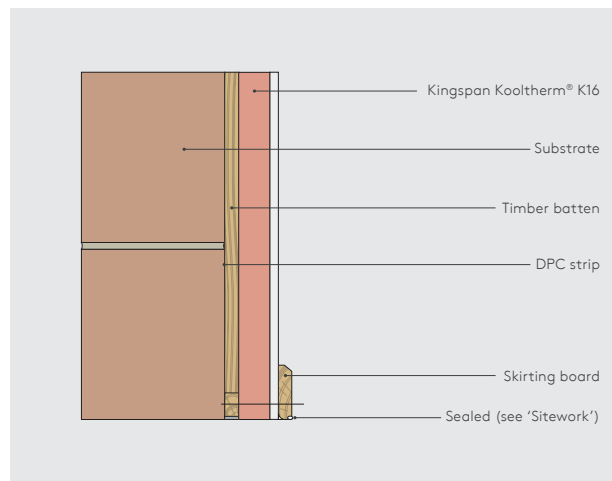

Figure 7 - Packer and skirting detail
- The packer should be replaced with a flexible / sealant or equivalent (for 5 mm gaps), or with a combination of flexible polyurethane foam and flexible sealant or equivalent (for 15 mm gaps) (see Figure 7).